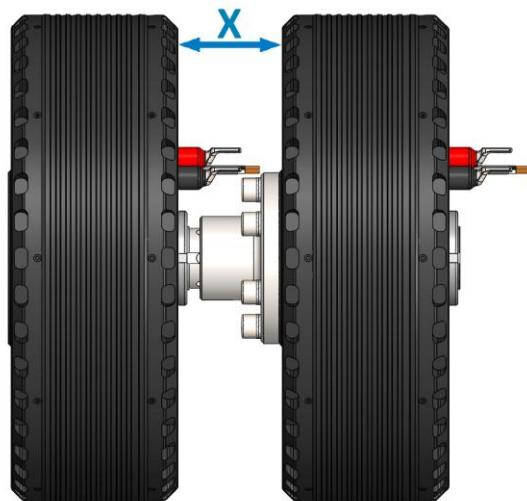

Figure 25: Distance between the motors
Motor type	Distance X [mm] (Figure 25)
3. Slide the two motors together. It is prohibited to use excessive force or hammer during this step. The distance between the two motors (see Figure 25) must be as specified in the next table.